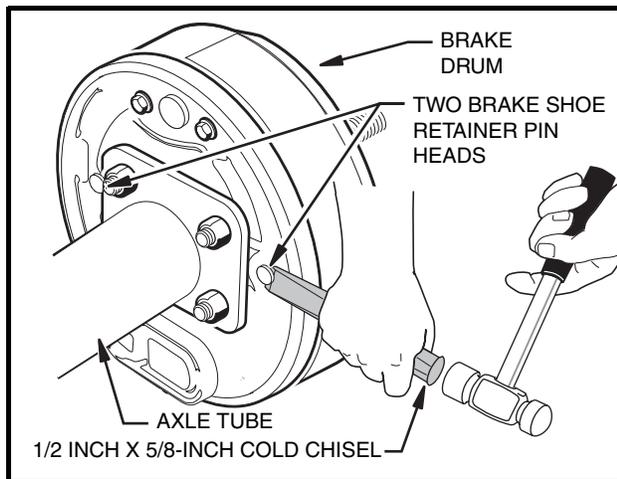

Figure 6-2 Shoe Retainer Pins
- 4.2. Insert a 1/2 x 5/8-inch cold chisel under the head of each pin and shear them off as illustrated (**Figure 6-2, Page 6-2**). This will release the shoes from the backing plate, allowing them to pivot away from the inside of the brake drum and allow the brake drum to be pulled free. After completing step 5, skip step 6.